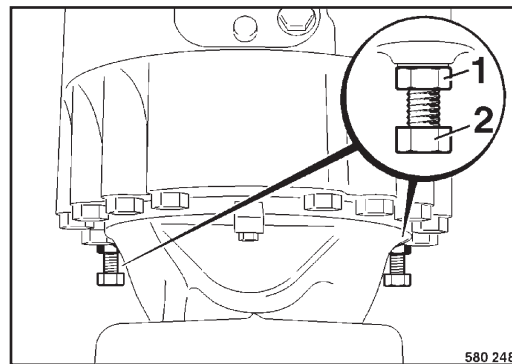

Fig. 71
- To release the brake turn counter nuts 1 (Fig. 71) approx. 8 mm back.
- Turn the brake releasing screws (2) completely in against the stop